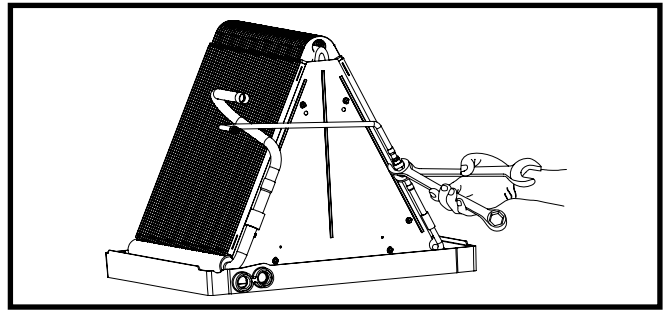

Figure 2. Loosening of Nut & Distributor Body
4. Align the retaining nut on the TXV body and hand tighten both components. Mark a line on both bodies and then tighten an additional ¼ turn using two wrenches. See Figure 2 (page 5). **NOTE:** The movement of the two lines will show how much the nut is tightened. If a torque wrench is used, tighten to 10-12 ft lbs or 14-16 Nm.
1. Using two wrenches, loosen the nut and distributor body as shown in Figure 2. Turn the assembly nut counter-clockwise until the orifice body halves are separated.